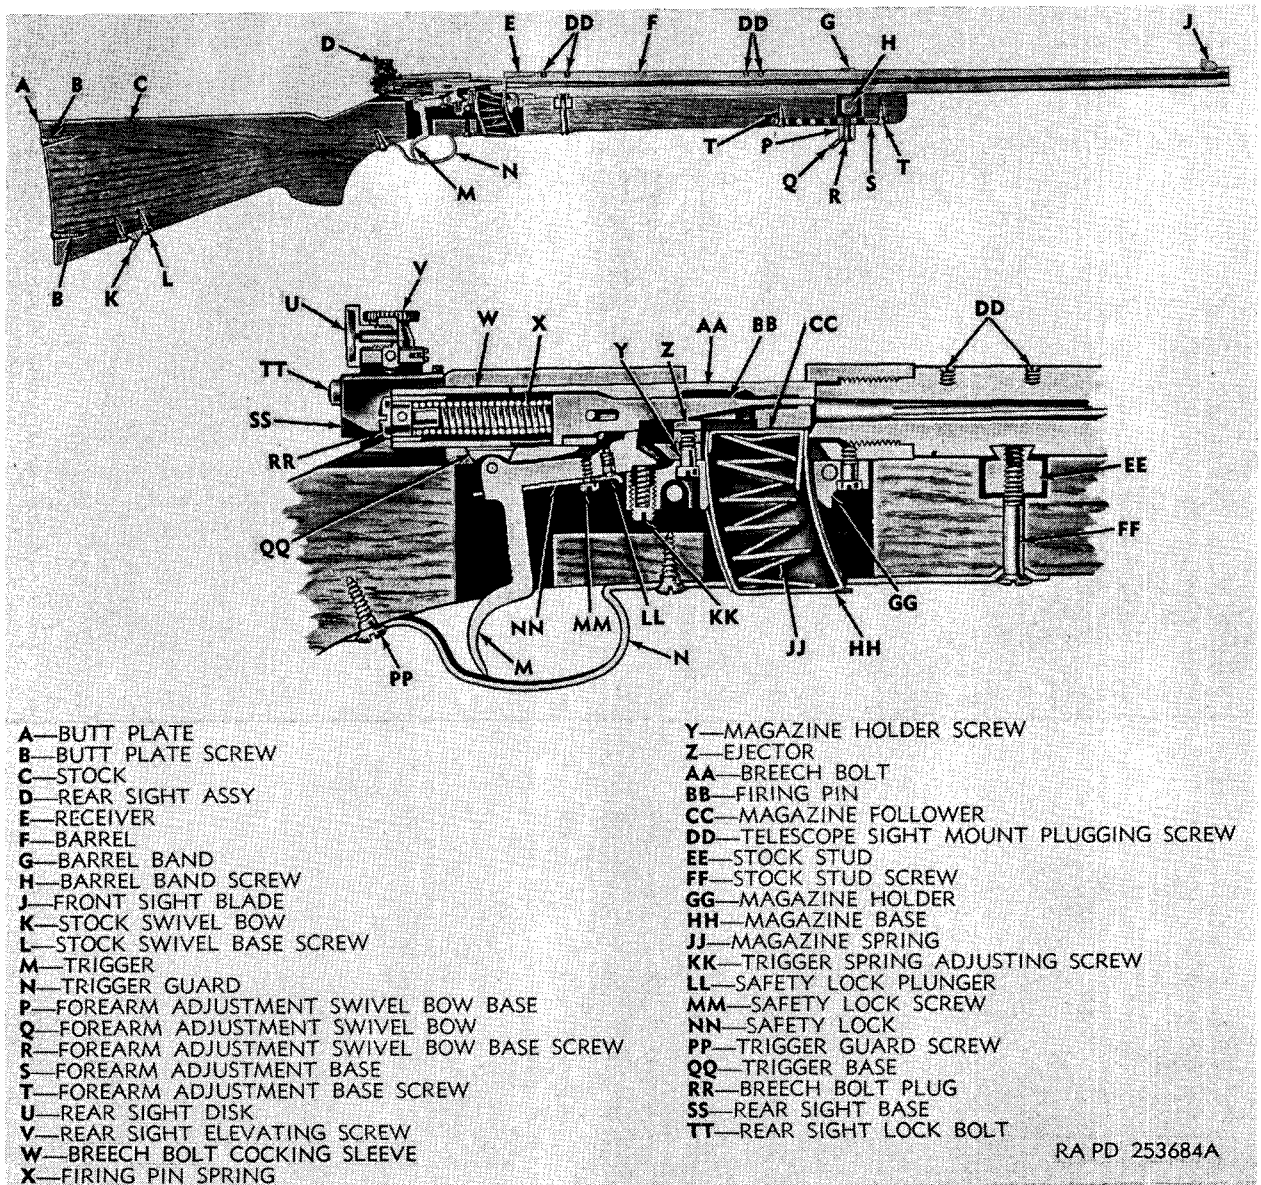

Figure 14. Winchester rifle M75T—sectional view.
- (5) *Stock group.* The stock is cut out on top to receive the barrel and receiver group. The right side of the stock is cut away for the bolt handle. The front bottom of the stock is mortised to receive the front swivel plate. The front swivel plate is mounted by means of one swivel plate screw and one barrel band screw which extends through the stock and threads into the band. It has seven tapped holes for receiving the front swivel screw, with integral swivel, for adjustment of handhold with relation to the sling. The front and rear swivels are identical and serve as a means of attaching the sling to the rifle. The front swivel is mounted to the front swivel plate and the rear swivel is attached to the rear swivel escutcheon into the butt of the stock. A trigger guard (DD) is secured to the bottom of the stock by screws (R and Z). A cutout in the guard serves as an opening for the magazine (S). The butt plate is attached to the rear of the stock by two butt plate screws.
d. Winchester Rifle M75T (fig. 14). The Winchester rifle M75T (figs. 3 and 44) consists basically of the breech bolt assembly, the magazine, rear sight assembly, barrel and receiver group, and the stock group.
Note. The key letters shown below in parentheses refer to figure 14.